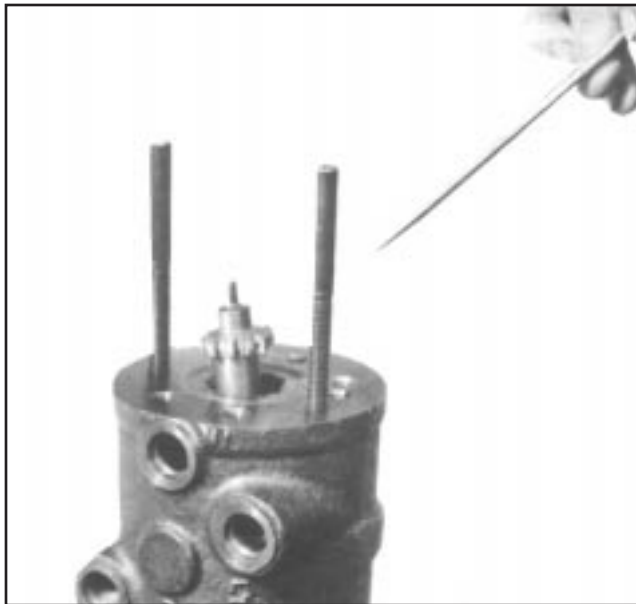

Figure HGA-22
17. With the drive link (30) installed as described above, assemble two assembly posts into the housing (25) as shown in Figure HGA-22. These